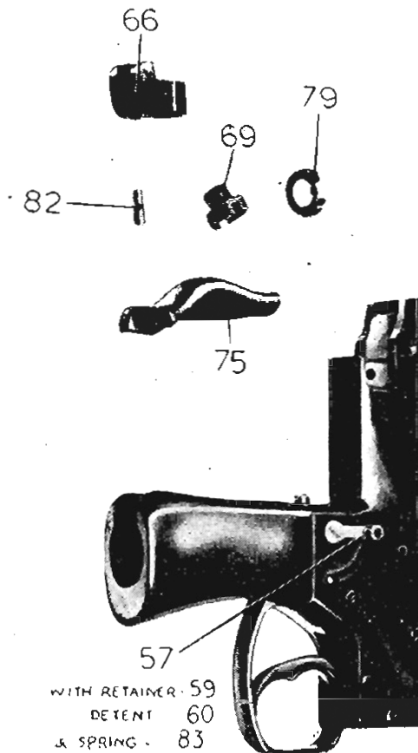

Figure 86. The Trigger Group, Mark II
The safety catch (54, Plate 6) fitted to the Mark I and Mark II is embodied in the trigger guard and consists of a pivoted three-armed catch which engages the sear (76), the sear trigger (74) and a safety catch rod in turn engaged by a safety catch lever (75, Fig. 86) mounted in the pistol grip.